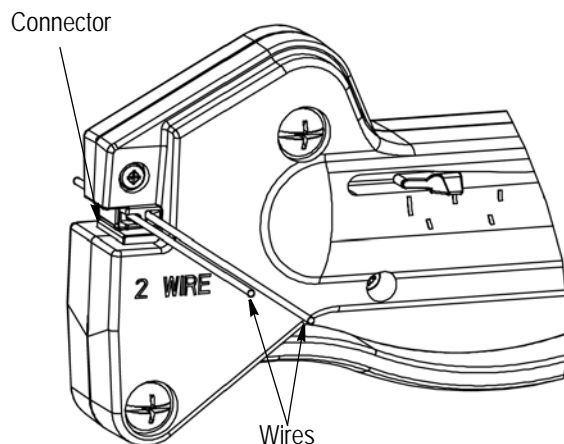

Figure 3
4. Insert wires into the connector according to the applicable connector application specification (114-series). Refer to Figure 3. Close applicator handle until the connector cover is seated on the top of the connector housing flange.